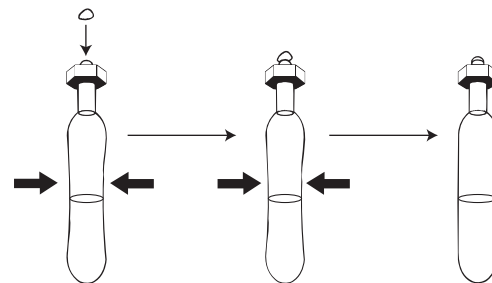

Figure 2.
3. Holding the bulb with the stem end upward, squeeze the bulb very slightly to expel a very small amount of air. Hold the squeeze while carefully placing a drop of hot-melt glue in the stem opening of the diver, and then relax the squeeze. The drop of hot glue will be pulled into the stem (see Figure 2).